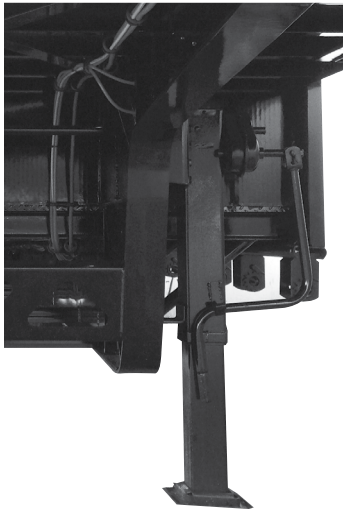

Figure 4
5. Crank down the landing gear (Figure 4)